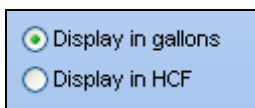

Figure 27.0.8
- In the **Display style** section click on the appropriate box for the following (Figure 27.0.8).